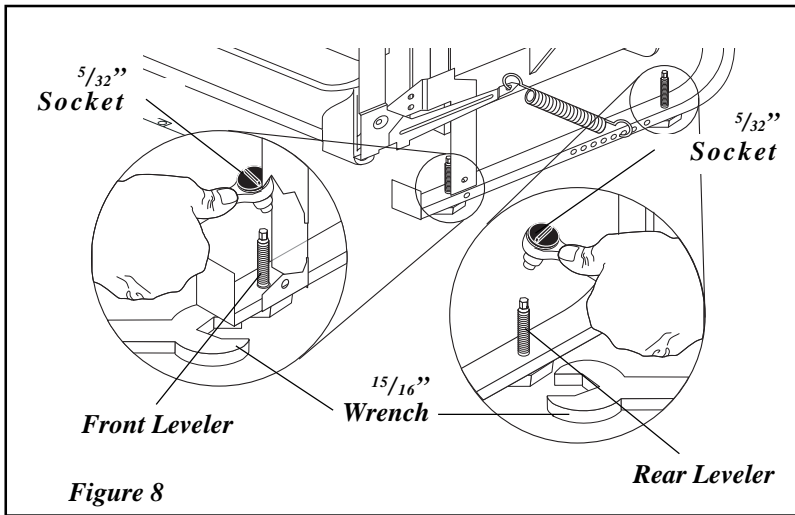

Figure 8
3. Loosen the front and rear leveling legs by turning counterclockwise. Refer to chart for number of turns. See **Figure 8**. Front levelers should allow ¹/₄" below underside of countertop.